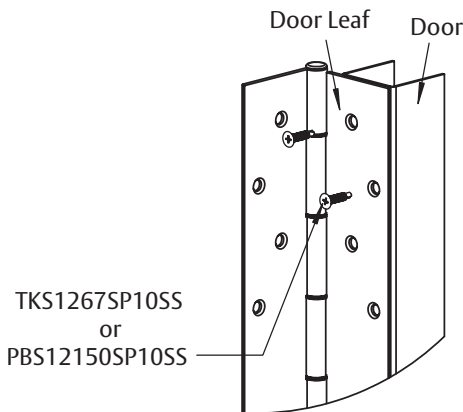

Fig. 4
A. Attaching hinge to door (Fig 4):